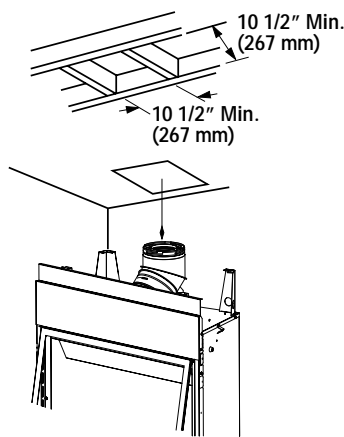

Figure 14
C. Frame ceiling opening - Use a plumb line from the ceiling above the appliance to locate center of the vertical run. Cut and/or frame an opening, 10-1/2" x 10-1/2" (267mm x 267mm) inside dimensions, about this center mark (*Figure 14*).
E. Frame ceiling opening - If the vertical route is to penetrate a ceiling, use plumb line to locate the center above the appliance. Cut and/or frame an opening, 10-1/2" x 10-1/2" (267 mm x 267 mm) inside dimensions, about this center (refer to **Figure 14 on page 11**).